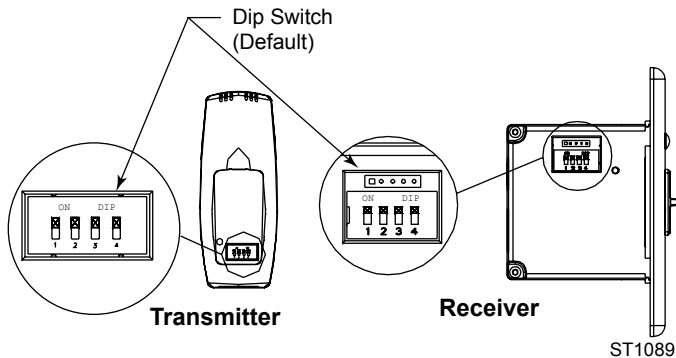

Fig. 60 The switches on the transmitter and receiver must match.
1. Slide the code switches on the transmitter and receiver to choice of ON or OFF position. Switches #1, #2, #3 and #4 are preset to "ON" for both the transmitter and receiver. (Fig. 60)
2. During system reset, all features of the LCD DISPLAY will be visible. After one second, the LCD will be initialized. A typical reset display is shown in Figure 60. Note the temperature scale is degree F.